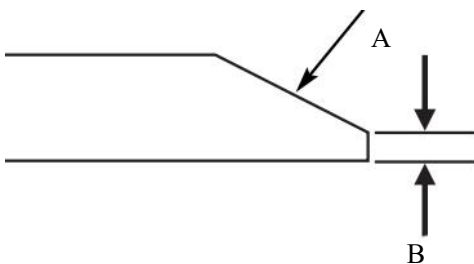

Fig. 13
- Keep the original bevel (A, Fig. 13) when grinding. DO NOT change the mower blade bevel.
- The mower blade should have a maximum 1/64" (0.40mm) cutting edge (B, Fig. 13) or less.
- Re-install each mower blade with the lift of blade pointing up towards the mower deck as shown in Fig. 13. Secure with the mower